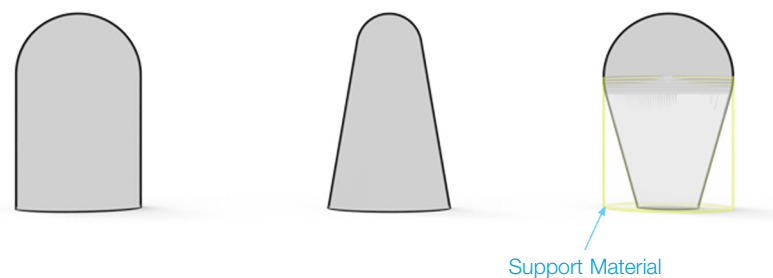

Figure 1: Support material and negative angle
- **Select geometries that have positive angles**—Use geometries with positive angles, that is, no overhangs, to avoid using support material on the fabric. (Figure 1)